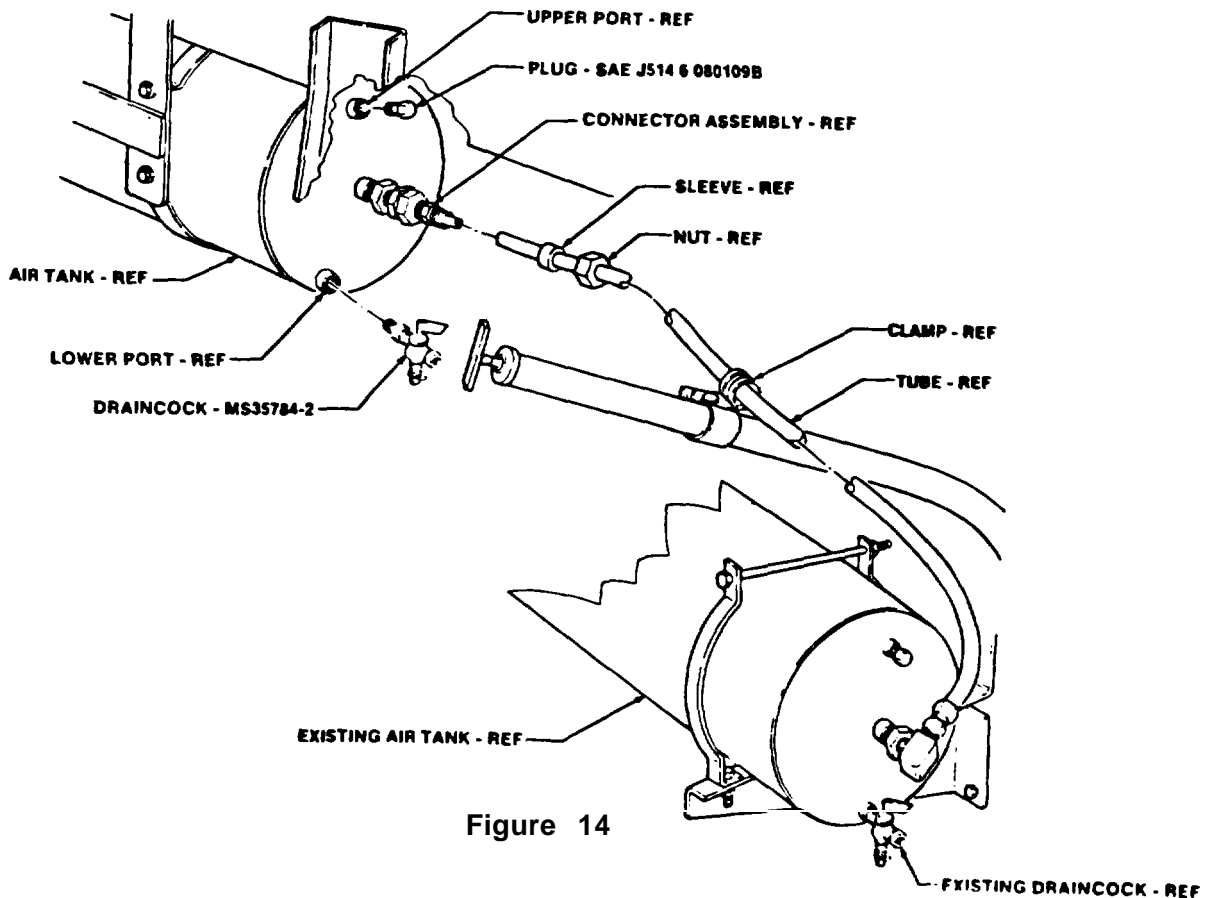

Figure 14
(9) Route tube through clamp to connector assembly on front of new air tank, cut tube, and secure tube to connector assembly with sleeve and nut as shown in figure 14.
(10) Install SAE J514 6 080109B plug in upper port on air tank as shown in figure 14.
(11) Install MS35784-2 draincock in lower port on air tank as shown in figure 14.
(1) Start vehicle and build air pressure up to operating range (refer to TM 9-2320-273-10).
(2) Inspect vehicle for air leaks, loose fittings, screws, and nuts (refer to TM 9-2320-273-10).
(3) Shut off vehicle and drain air system by opening draincock on existing air tank only as shown in figure 14.